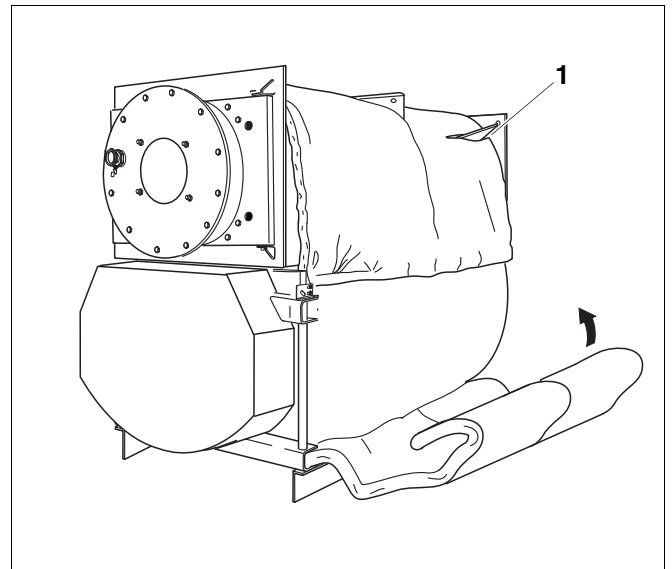

Fig. 11 Thermal insulation
- Push the lagging through under the boiler (Fig. 11).